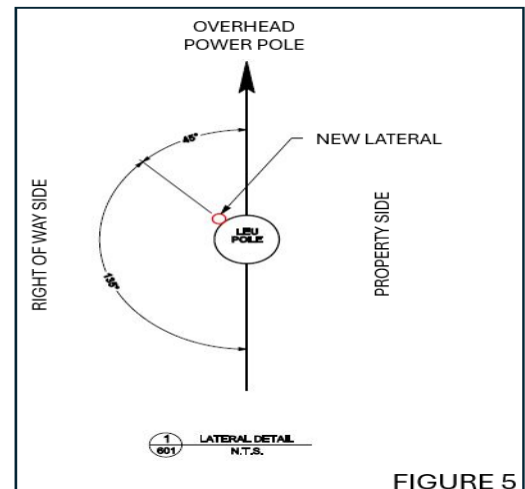

FIGURE 5
- a. A back of walk (BOW), back of curb (BOC), property line (PL) or edge of asphalt (EOA) dimension (that will be updated in the field accordingly) for as-built purposes (for the accurate mapping of Underground Utilities).
10. If attaching to an overhead power pole from an underground alignment, riser detail required (See Figure 5)
5. Example of a riser detail showing the connection to an overhead power pole, see FIGURE 5.